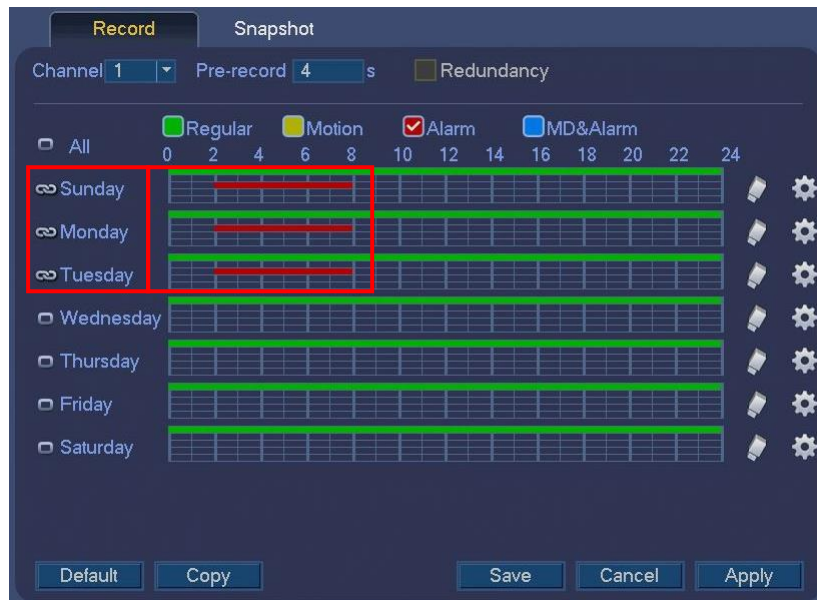

Figure 2-25
- ✧ Please draw manually to set record period. There are six periods in one day. See Figure 2-25.